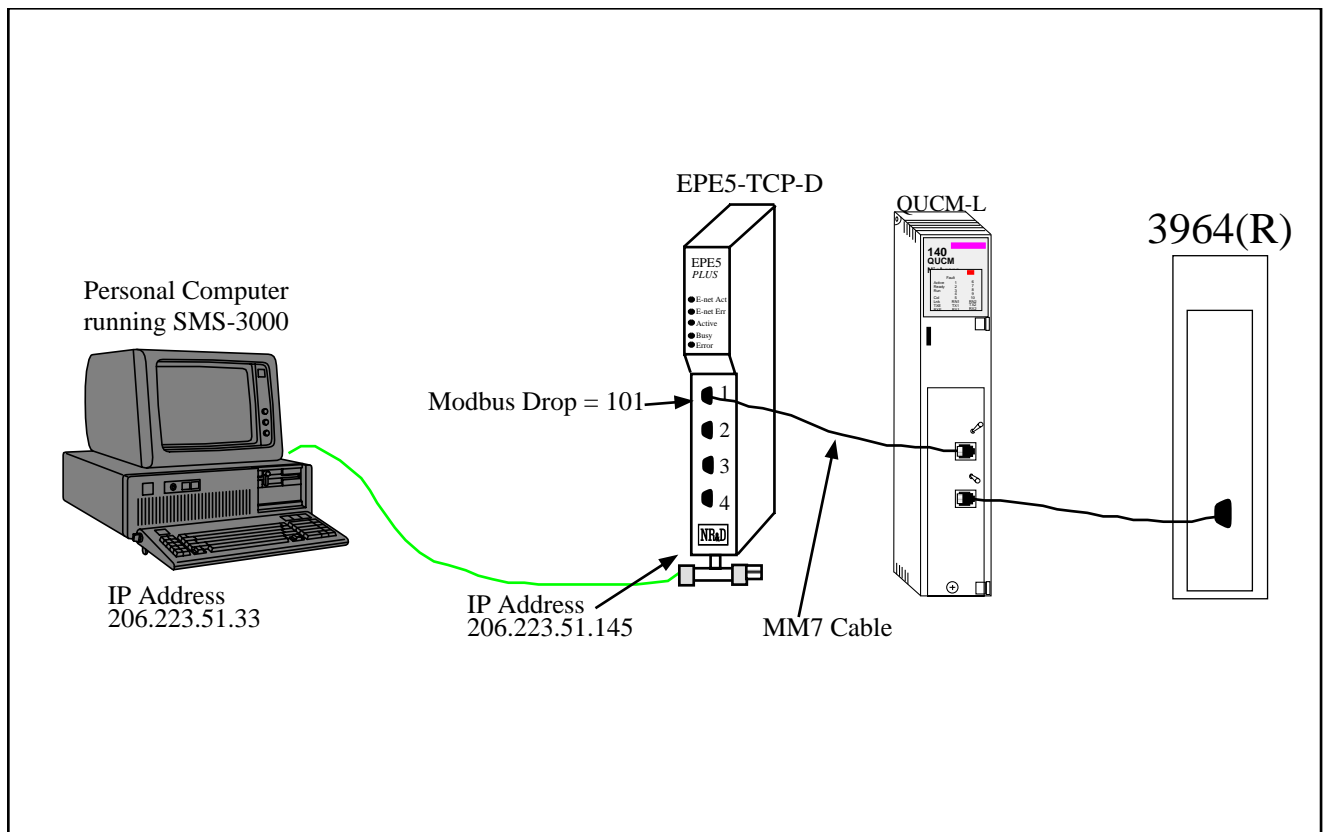

Figure 4-2 Modbus TCP Example
Figure 4-2 displays an example of how the QUCM could be used to put data from a 3964(R) device onto Modbus TCP.